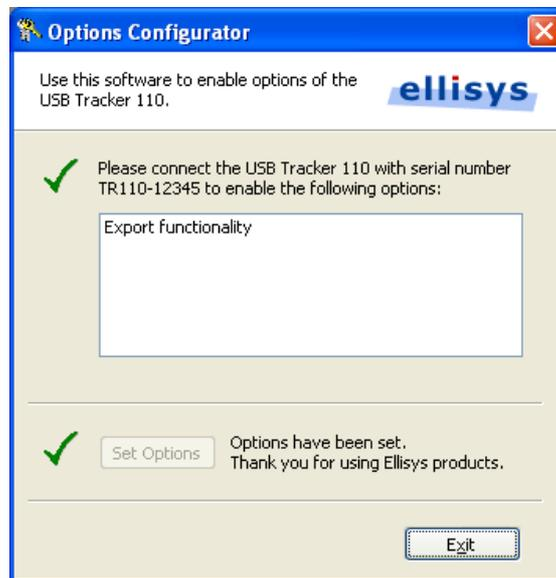

Figure 34 - Optional functionality properly installed
6. Press "Set Options" to activate the optional functionality. The software will then display a success message (see Figure 34).